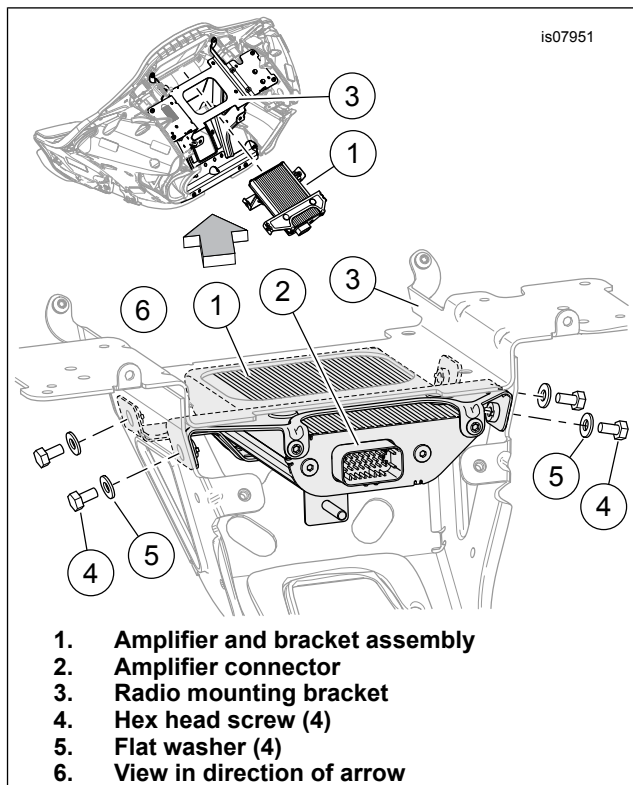

Figure 3. Amplifier Installation
3. See Figure 3. Install the amplifier.
- a. Get the four hex head screws (4) and flat washers (5) from the kit.
- b. Slide the amplifier and bracket assembly (1) into location on the underside of the radio mounting bracket (3) as shown, with the connector (2) facing out. **NOTE: Radio removed to show detail.**